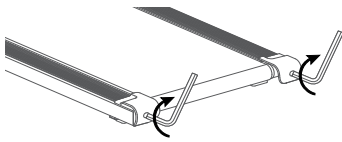

Figure.3
c. Fold up console (Fig. 3).
- 2. Using the **5mm L-type** hex tool, turn both idler roller screws clockwise **1/2** of turn(refer to figure 3).